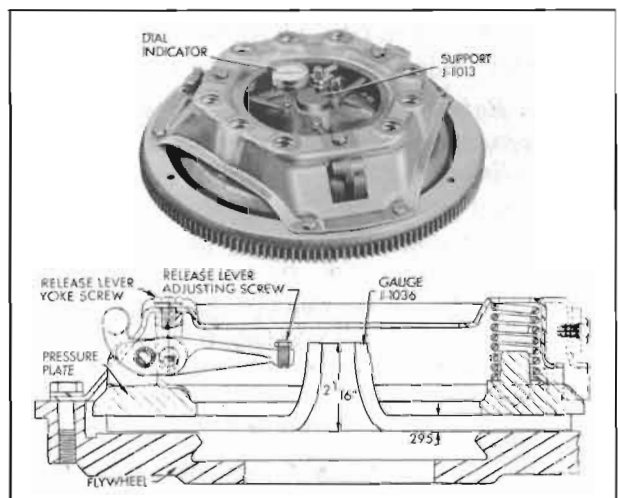

Figure 4-6—Checking Release Lever Height
1. Mount clutch assembly for checking by placing Adjusting Gauge J-1036 on a spare flywheel and then placing clutch assembly over gauge so that release levers are directly above machined bosses of gauge. See Figure 4-6.
3. Zero dial indicator by mounting dial indicator on Support J-1013. See Figure 4-6. Then set support on flat surface, press indicator down against surface until indicator hand turns approximately one revolution, and tighten indicator to support. Now set indicator face to zero.